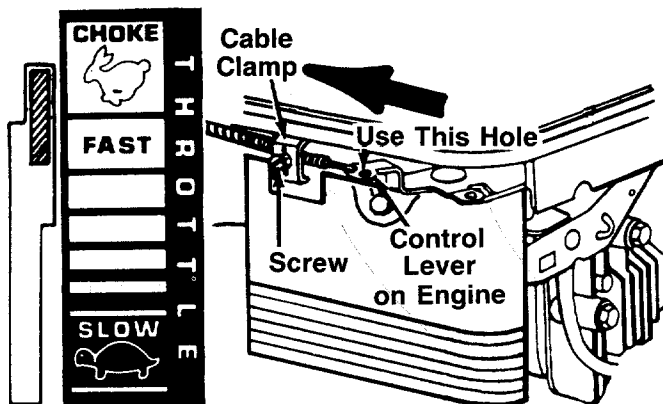

FIGURE 5.
1. Push the throttle control lever on the handle all the way forward to CHOKE position. See figure 5.
2. The throttle control cable is attached to the upper handle. Route the throttle control cable under the lower handle and to the outside of the handle mounting bracket and height adjustment handle. Hook the "Z" end of the throttle control cable into the **inside** hole in the control lever on the engine as shown in figure 5.
3. Using a screwdriver, remove the screw and cable clamp shown in figure 5. Remove the cable clamp from the cable.